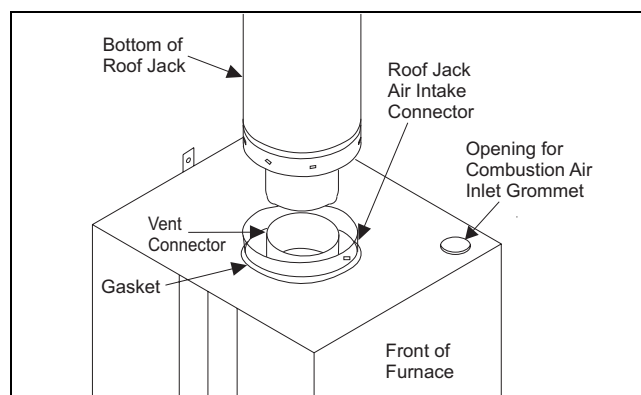

FIGURE 29: Roof Jack Attachment to Furnace
3. Pull the Roof Jack's telescoping section down onto furnace. Fully engage Roof Jack onto Vent Connector and Air-Intake Connector and compress gasket. See Figure 29. Refer to Interior Roof Jack Extension installation instructions, if applicable.
If using an optional interior extension, place extension down on furnace top and mate with furnace flue and combustion air collar until it lines up with screw holes in combustion air collar. Secure the extension to the furnace using the pre-punched holes. Use 1/2" (1.27 cm) blunt or sharp end sheet metal screws to fasten roof jack combustion air pipe to furnace combustion air collar. Screw holes are provided in pipe and collar. Excessively long screws may extend to flue pipe and puncture it. If substitute screws are used, they must not exceed 1 1/2" (3.81 cm) in length. Pull the roof jack flue and combustion air pipe assembly down and mate with extension flue and combustion air pipes until the screw holes line up. See Figure 29. Fasten interior extension to combustion air pipe assembly with sheet metal screws not exceeding 1 1/2" (3.81 cm) in length.